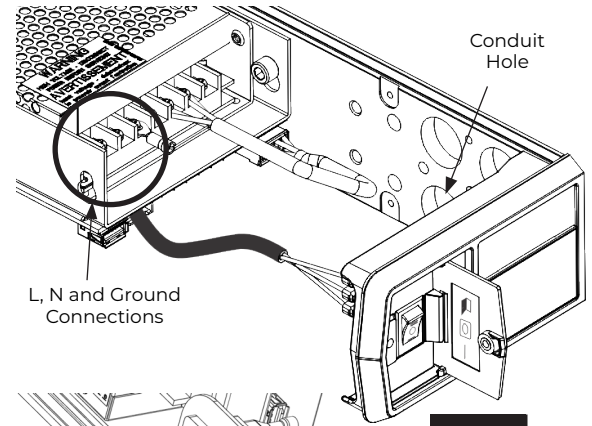

Figure 1
1. **With the building power feed turned off**, route 120VAC wiring through the conduit hole in backplate. (Figure 1)
2. Connect 120VAC power to the power supply (Figure 1):